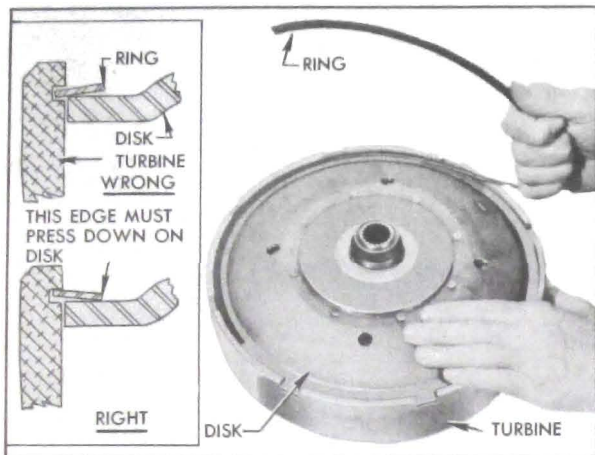

Figure 5-57—Installing Disk Retaining Ring
firmly against the disk when the ring is engaged in the groove in first turbine. See Figure 5-57
18. Start one end of ring into groove in turbine, then twist the ring upward as shown in Figure 5-57 to lay the ring flat on the disk so that it can be progressively entered into the groove all the way around.